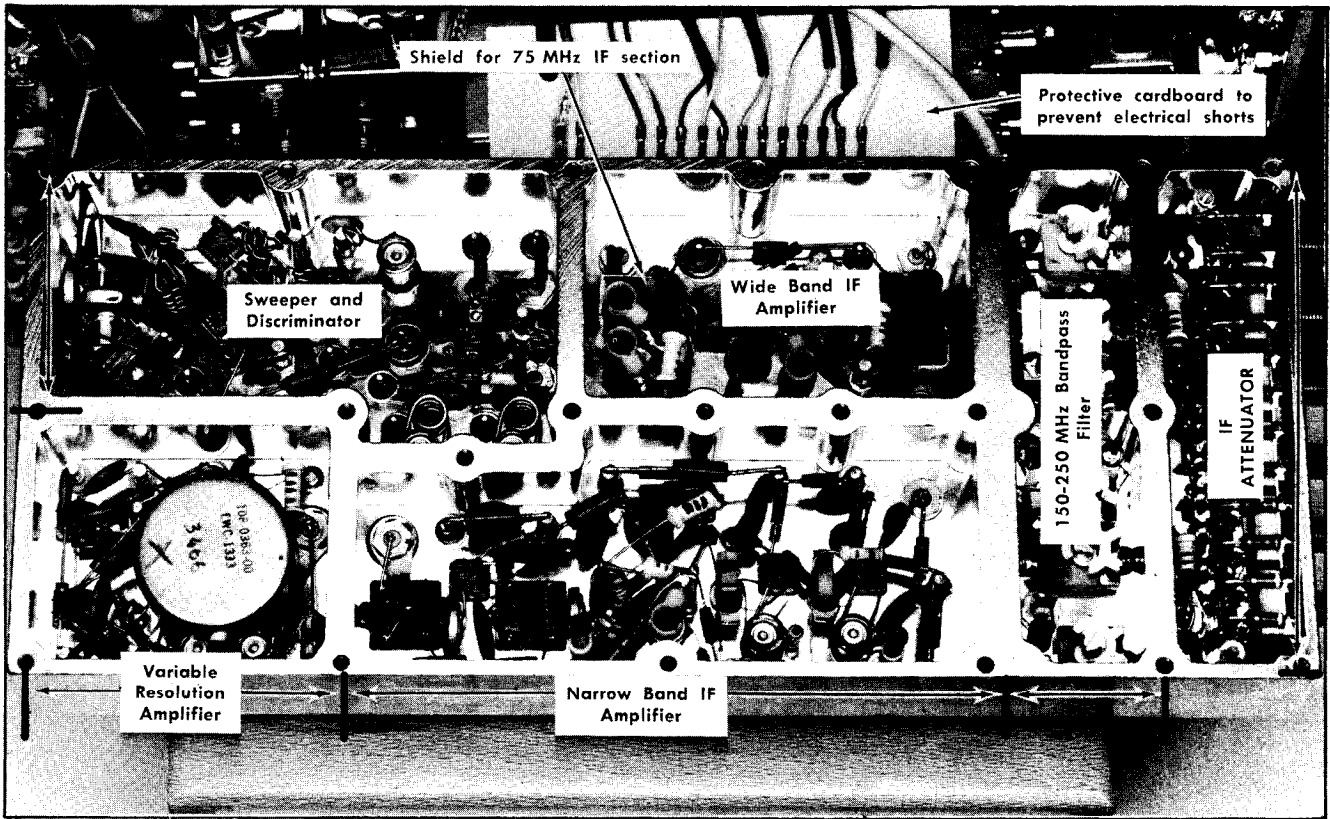

Fig. 4-11. Honeycomb assembly open and ready for voltage and waveform measurements.
3. Turn the Type 491 on its side (see Fig. 4-11). Remove the nylon rocker arm from the DISPERSION RANGE switch SW365.
5. Turn the honeycomb assembly over and place it upside down on a block or box as shown in Fig. 4-11. CAUTION-Do not bend or damage the pin connectors.
7. If power is to be applied, make certain all connections are correct to the square pin connector and the connectors are free of short circuit conditions. The DISPERSION RANGE switch must be manually switched on the honeycomb assembly when changing DISPERSION RANGE positions. Fig. 4-11 shows the circuit sections in each cell of the honeycomb assembly.